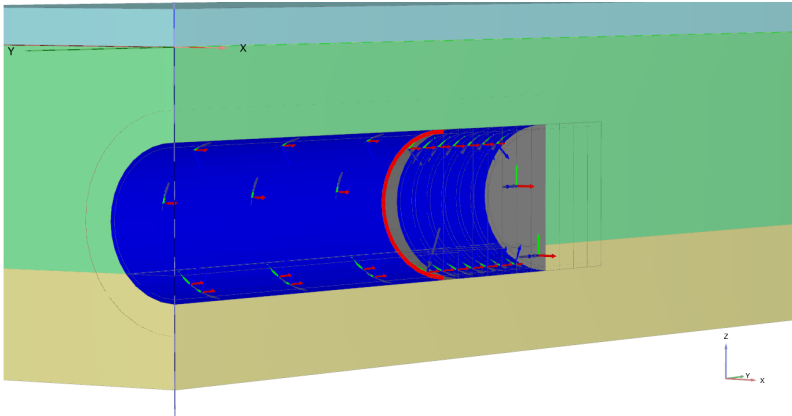

Figure 6.22 Selection of soil surfaces (25.0 m)
- In the drawing area select the lateral surfaces of the outer volume, corresponding to the last slice of the TBM (grout and jack thrusting) at 25.0 m (Figure 6.22). In the *Selection explorer*, deactivate the surface load corresponding to the jack thrusting, because the TBM is only placed in this phase and it's not moving.